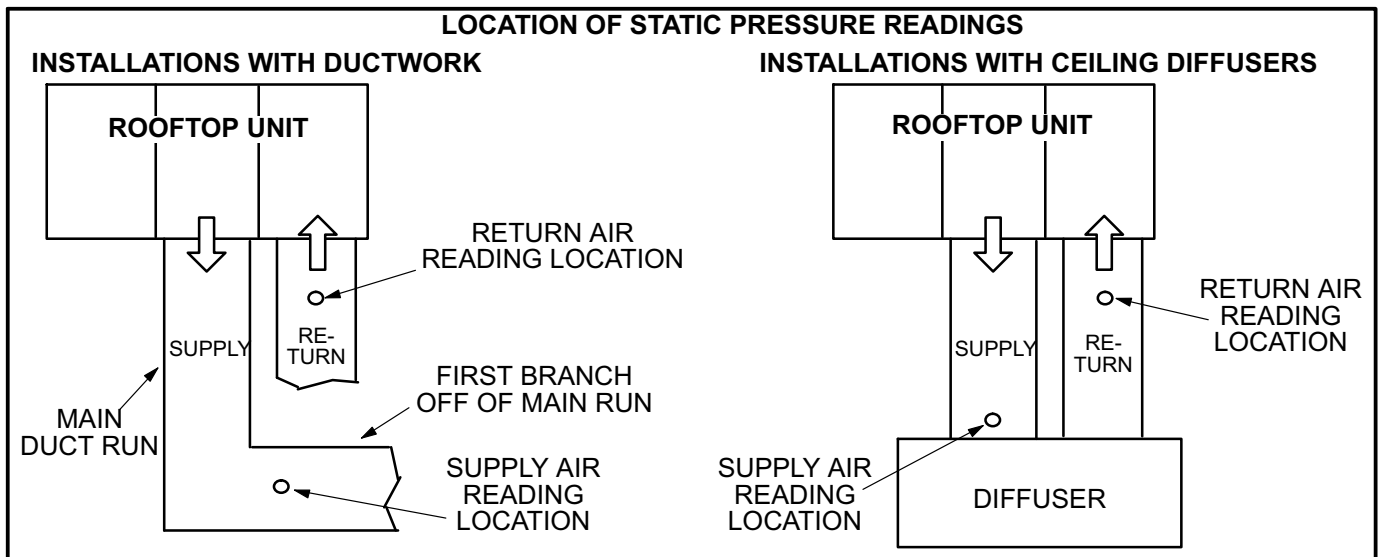

FIGURE 15
- 2- With all access panels in place, measure static pressure external to unit (from supply to return). Add any additional air resistance for options and accessories shown in accessory air resistance tables. Blower performance data is based on static pressure readings taken in locations shown in figure 15.
2- With all access panels in place, measure static pressure external to unit (from supply to return). Blower performance data is based on static pressure readings taken in locations shown in figure 15.